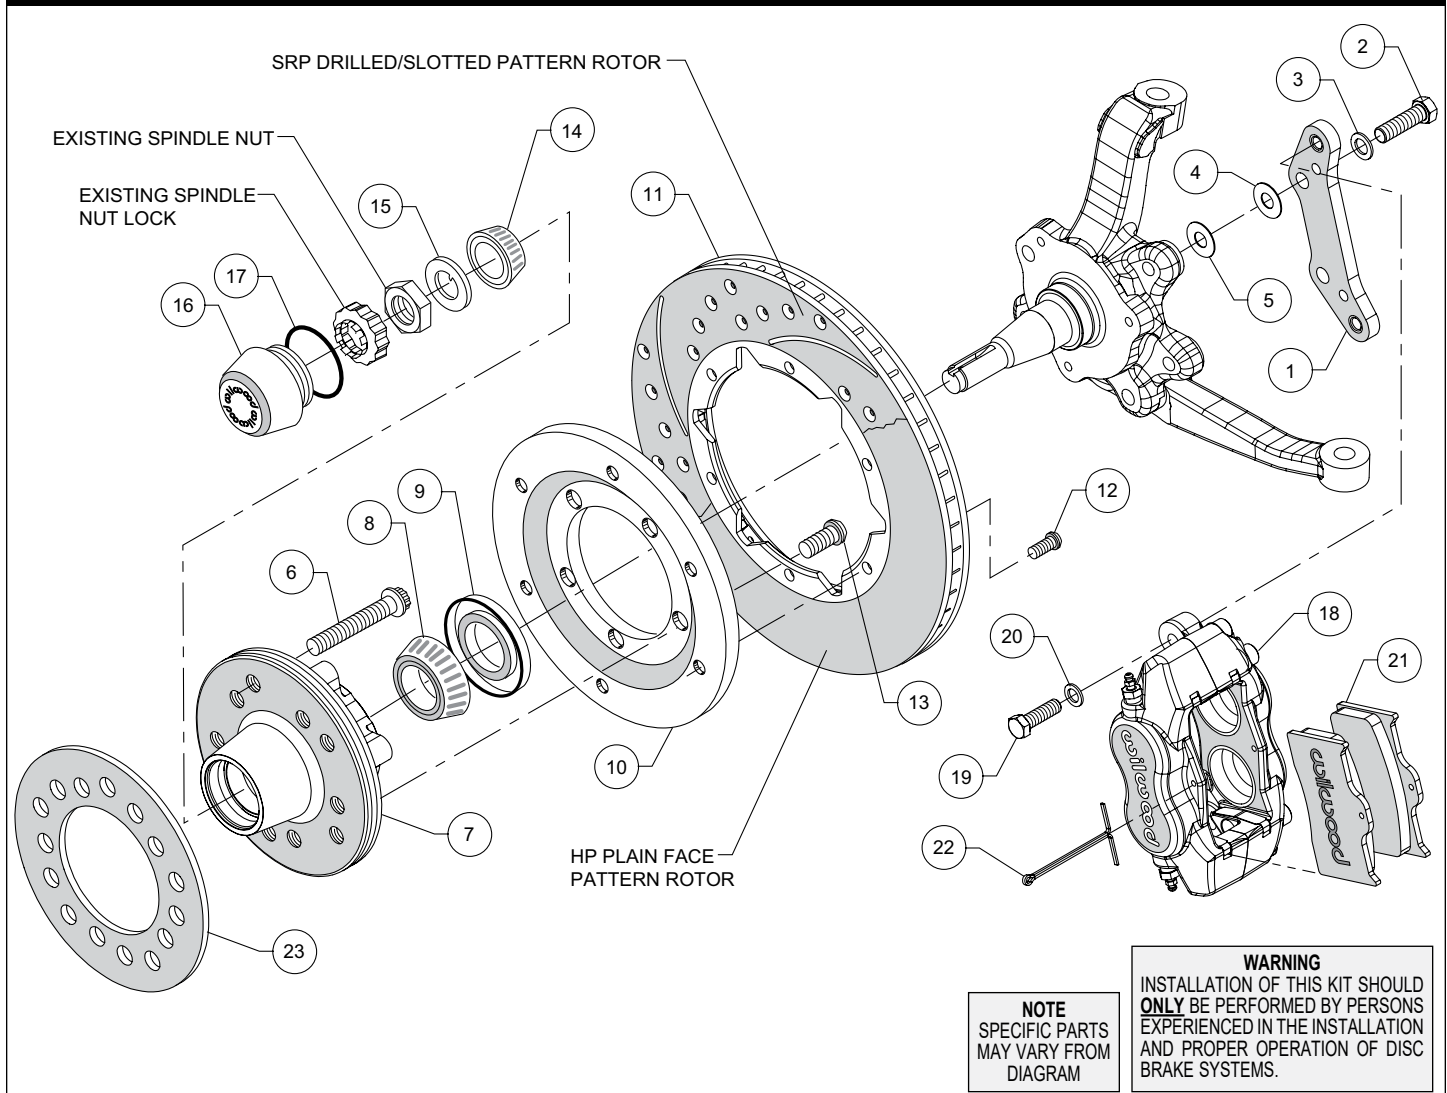

Figure 1. Typical Installation Configuration
**NOTE:** Numbers in parenthesis refer to the parts list and Figure 1 on the preceding pages.
- NOTE:** Please reference the caution statement at the beginning of the assembly instructions. Mount the caliper (18) onto the caliper mounting bracket (1) using bolts (19) and washers (20), as shown in Figure 1 and Photo 1. Temporarily tighten the mounting bolts. Ensure that the flanged heads of the clinch nuts in the bracket are facing away from the caliper, Figure 1. **NOTE:** The end of each bolt must be flush with or slightly protruding from the head of the clinch nut. Remove bolts one at a time, apply red *Loctite*® 271 to threads and torque to 40 ft-lbs. The bracket/caliper assembly will be installed on the spindle later.
- Pack the large inner bearing cone (8) with high temperature disc brake bearing grease (available from your local auto parts store) and install into the backside of the hub (7), Photo 3.
- Install the grease seal (9) by pressing into the backside of the hub (7), flush with the end of the hub, Photo 3.
- Orient the rotor (11) and the rotor adapter (10) as shown in Figure 1 and Photo 4. Attach the rotor to the adapter using bolts (12). Using an alternating sequence, apply red *Loctite*® 271 to the threads, and torque to 25 ft-lb.
- Mount the adapter/rotor assembly (10 and 11) to the hub (7) using bolts (13), as shown in Figure 1 and Photo 5. Using an alternating sequence, apply red *Loctite*® 271 to the threads, and torque to 45 ft-lb.
- The caliper/bracket assembly (18 and 1) should initially be installed with clean, dry threads on the mounting bolts. Orient the bracket as shown in Figure 1 and install onto the inboard side of the spindle using bolts (2) and washers (3). Initially place one .030 thick shim (4) on each bolt between the bracket and spindle, Photo 8. Temporarily tighten the mounting bolts and view the rotor (11) through the top opening of the caliper. The rotor should be centered in the caliper, Photo 9. If not, adjust by adding or subtracting shims (4 and/or 5) between the bracket and the spindle. Always use the same amount of shims on each of the two mounting bolts. Once the caliper alignment is correct, remove the bracket mounting bolts (2) one at a time, apply red *Loctite*® 271 to bolt threads, and torque to 60 ft-lb.